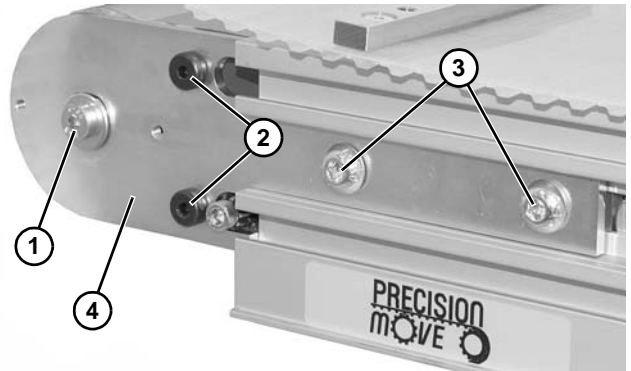

Figure 39
6. Remove socket head screw and washer (Figure 39, item 1) on both sides of conveyor.
7. On one side of conveyor, remove two socket head screws (Figure 39, item 2).
8. Remove tail clamp bolts (Figure 39, item 3) and remove headplate (Figure 39, item 4).